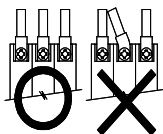

Fig.1
8. Each terminal or conductor pole should be connected in parallel as shown in the Fig.1.